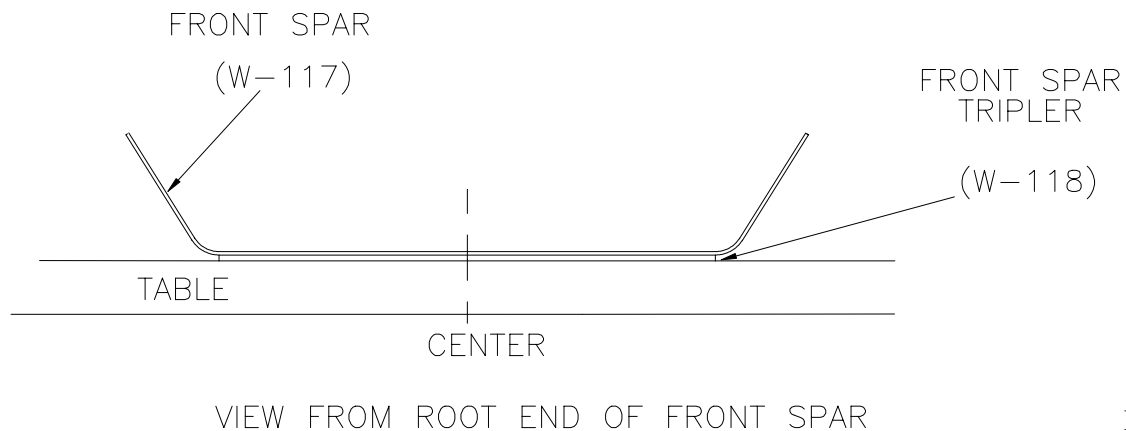

Figure 8.11.3
- 6) Place a Front Spar (W-117) face down and centered over the Front Spar Tripler (W-118) and flush with the root end. Back drill all the rivet holes into the Front Spar Tripler to #40. **DO NOT** drill lightening holes in the Front Spar Tripler. Cleco as you go. Figure 8.11.3